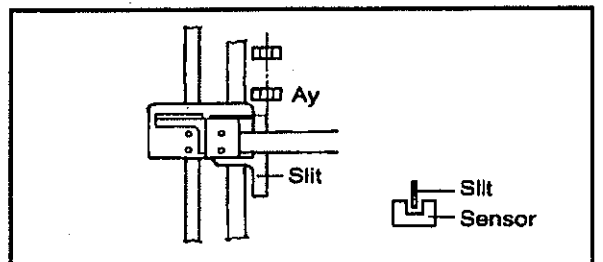

FIG.5
- Note:** If adjustment is not successful after step (5), move the slit. **Note** that the slit is placed in the center of the sensor slot (Fig.5).